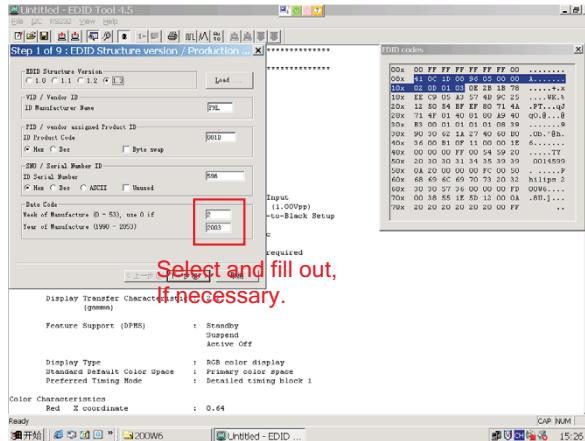

Fig. 15
- Click (new function) icon from the tool bar, bring up Step 7 of 9 as shown in Fig. 15. EDID45 DDC application provides the function selection and text change (select & fill out) from Step 1 to Step 9.